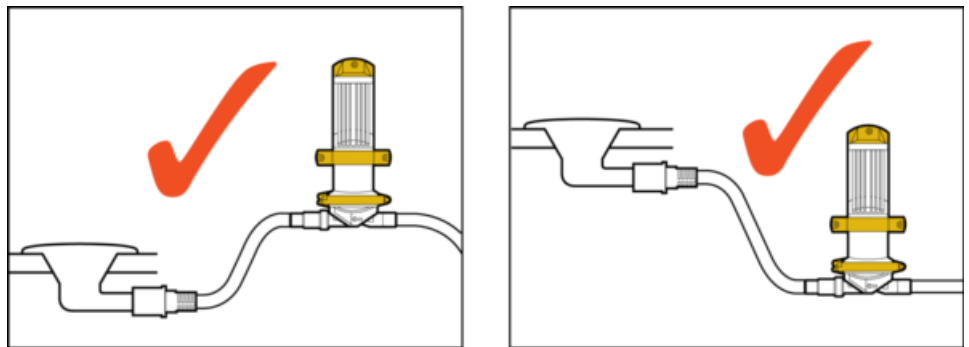

Fig 2 Gulley IC location relative to Gulper IC
- The recommended mounting arrangement is for Gulper® IC to be located at a lower level than Gulley IC. However, the pump can operate satisfactorily when mounted at a higher point (Fig 2)